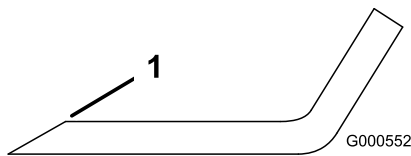

Figure 64
- Use a file to sharpen the cutting edge at both ends of the blade (Figure 64).
Note: If the blade is not balanced, file some metal off the end of the sail area only (Figure 64).